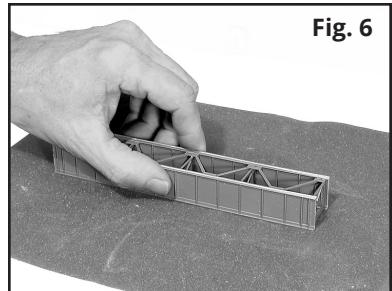

Fig. 6
6. After the cement has dried sufficiently, place the span assemblies on a sanding block and sand off the draft angle and parting line from the top and bottom edges of the girders. See fig. 6. (Sand only the top edges of the N 40' bridge.)
7. Center and cement a long rivet plate part (4) to the bottom edge of each girder. (The N 80' uses two rivet plates per girder, the N 40' bridge does not use long rivet plates.) Cement the bridge shoes part (5) on the bottom edge and at the ends of each girder.
8. Open Deck Bridge Only - Cement the guard timbers part (6) to the top of the Bridge Flex-Trak part (7) ties.